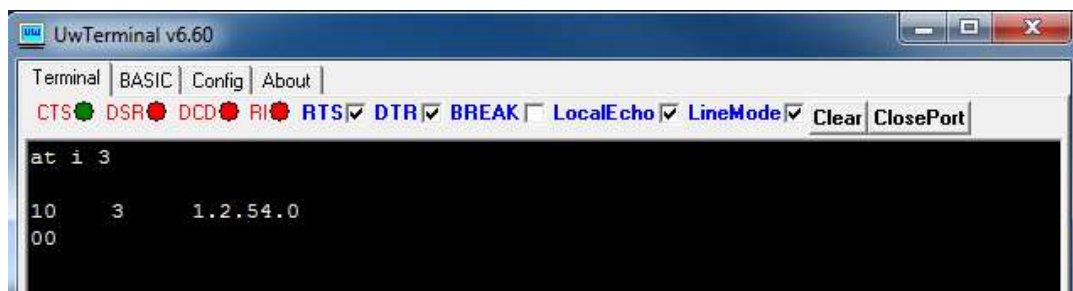

Figure 12: Issuing `ATI3` to check firmware version
5. Send the string `ATI3` as shown in Figure 12: